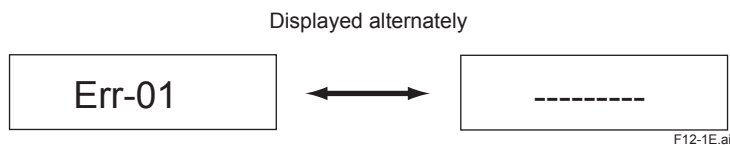

Figure 12.1
- (1) Stops the supply of power to the heater in the detector to insure system safety.
- (2) Causes an error indication in the display to start blinking to notify of an error generation (Figure 12.1).
- (3) Sends a contact output if the error (Parameter code E20) is set up for “Contact output setting” for that contact (refer to Section 8.5, “Contact Output Setting”).
- (4) Changes the analog output status to the one set in “Output hold setting” (refer to Section 8.3, “Output Hold Setting”).